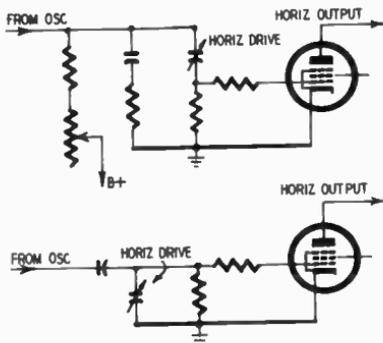

Fig. 9-D. *Typical horizontal-drive control circuits.*
**SERVICE:** The high electrostatic charge on the face of the pix tube attracts dust. This forms a fine uniform film of dirt across the screen, even though it is covered by a mask. Fig. 9-C shows pictures taken before and after cleaning the tube. Pull plug from line and make sure that there is no voltage or charge on tube. Clean face carefully with soft cloth and lukewarm water. Do not use soaps, abrasives or cleansers. Clean mask at the same time.
*Fig. 9-C. A photo of the face of the picture tube (before cleaning) is shown at the left. The photo at the right shows the same test pattern after the screen and the mask were cleaned. The high voltage of the picture tube seems to attract dust and will deposit a uniform layer of it over the screen.*
Typical horizontal-drive controls are illustrated in Fig. 9-D.